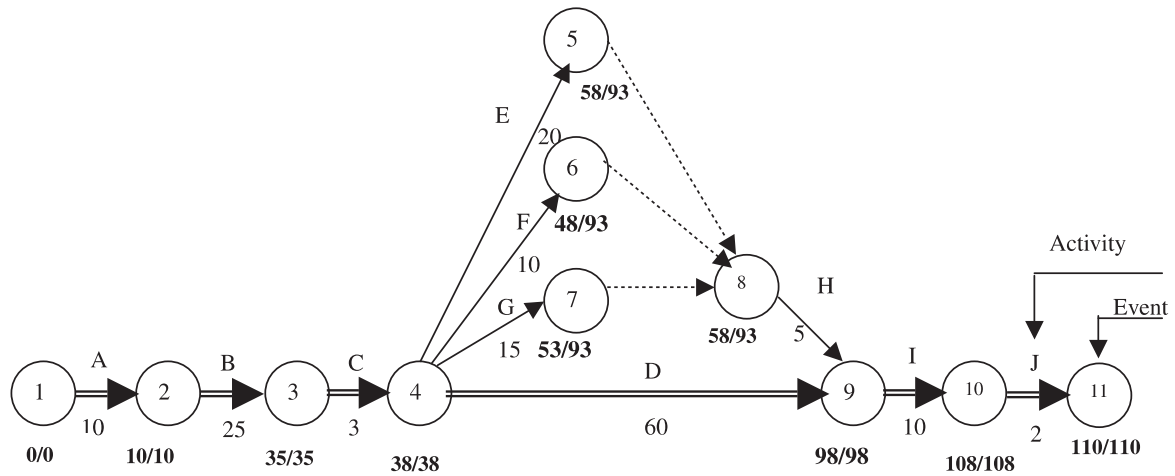

Figure 7.6
B. PERT / CPM Technique:**A PERT/CPM network for Boiler Replacement (Refer Figure 7.6)**